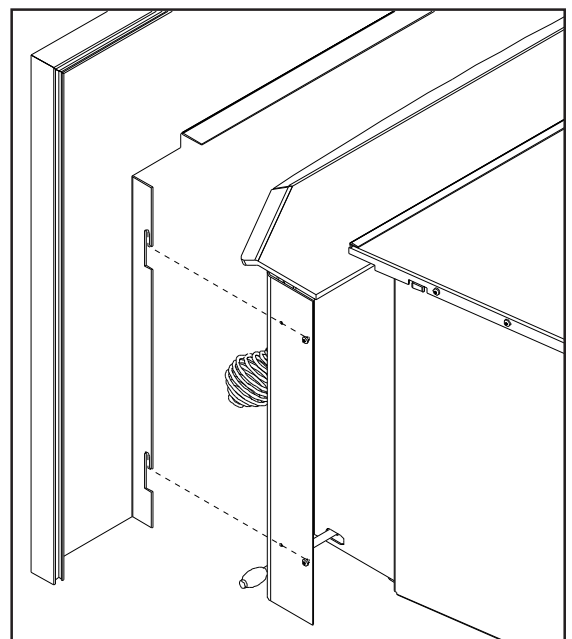

Figure 56: Installation of Panel.
There are two (2) hooks on either side of the inside of the panel. Line up the openings on the hooks with the screws on the outside of either shroud (see Figure 56). Push the surround in and push it down into place.